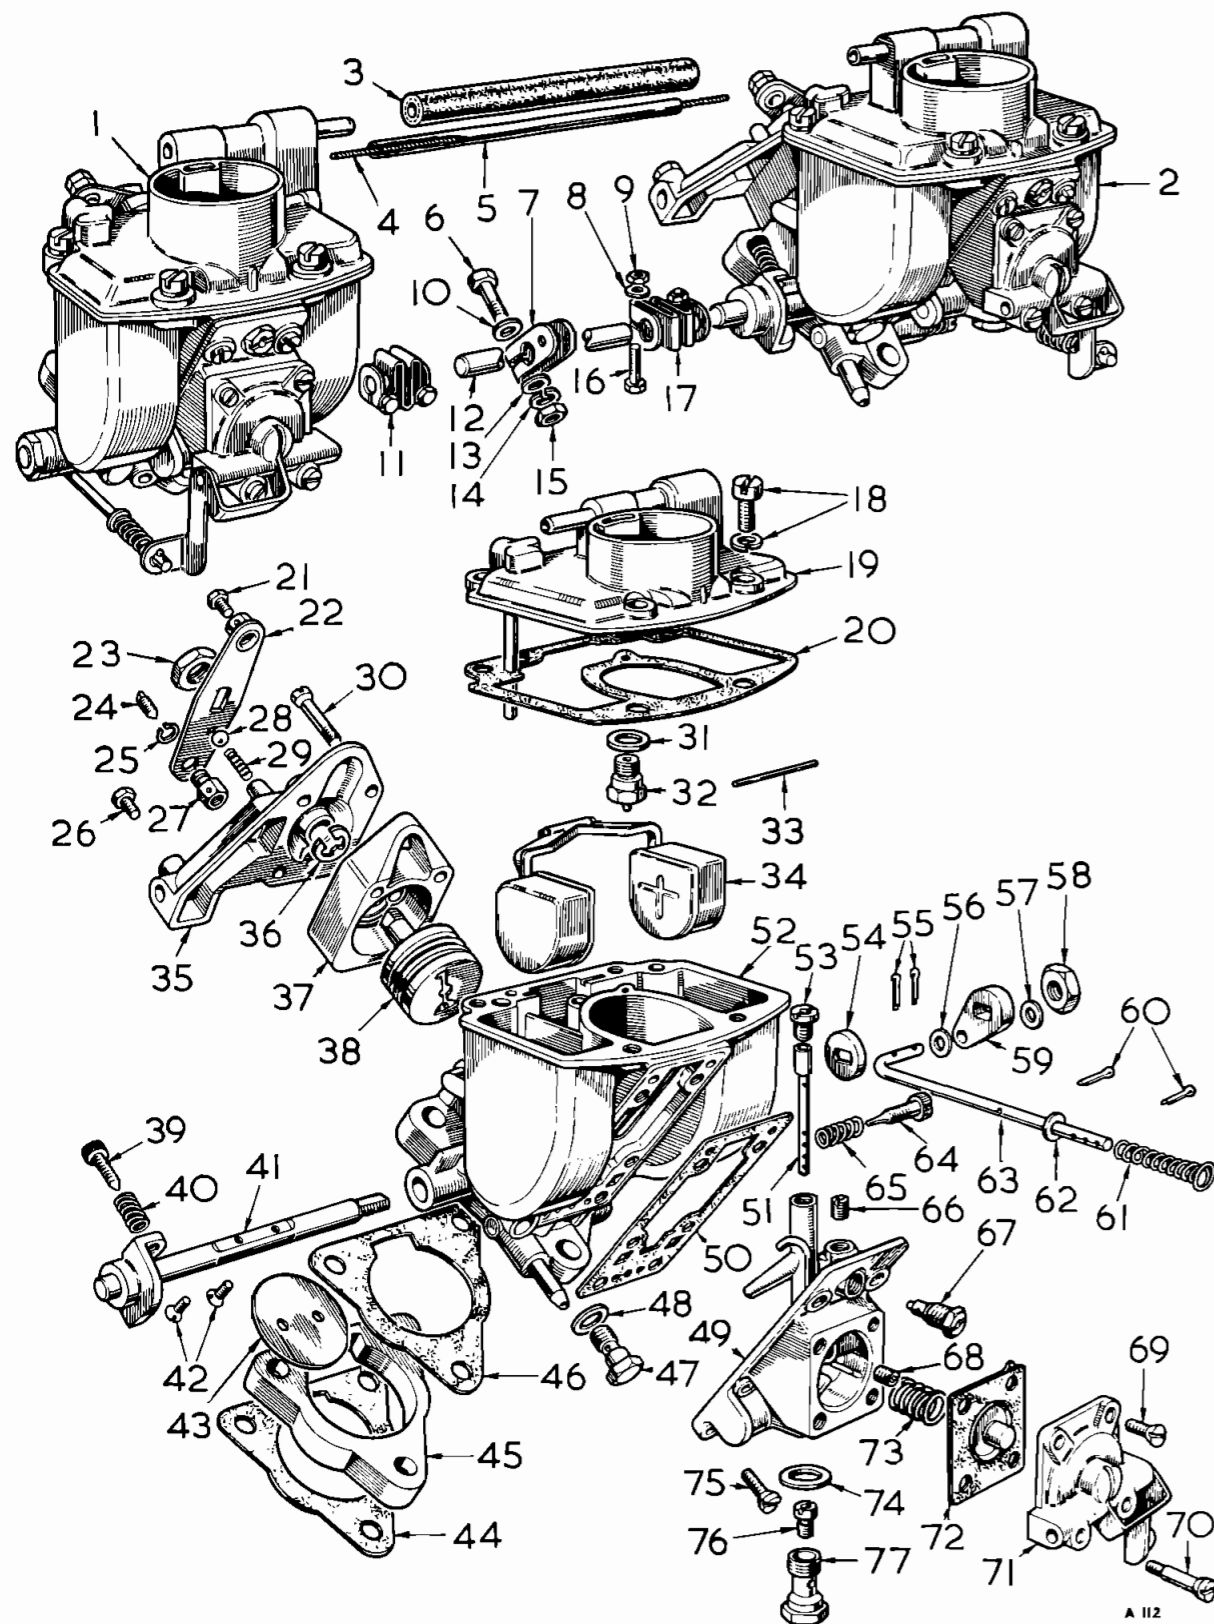

Fig. 27. Exploded B32 P1H semi-downdraught carburettor
## Key to Fig. 27
1. Remove the pump jets (68), Fig. 27, and fit blanking plugs, Part No. 512087.
2. Disconnect and remove the pump operating rods (63).
3. Remove the operating arms from the diaphragm covers (71), by drifting out the securing pins.
**Removal (Fig. 27)**